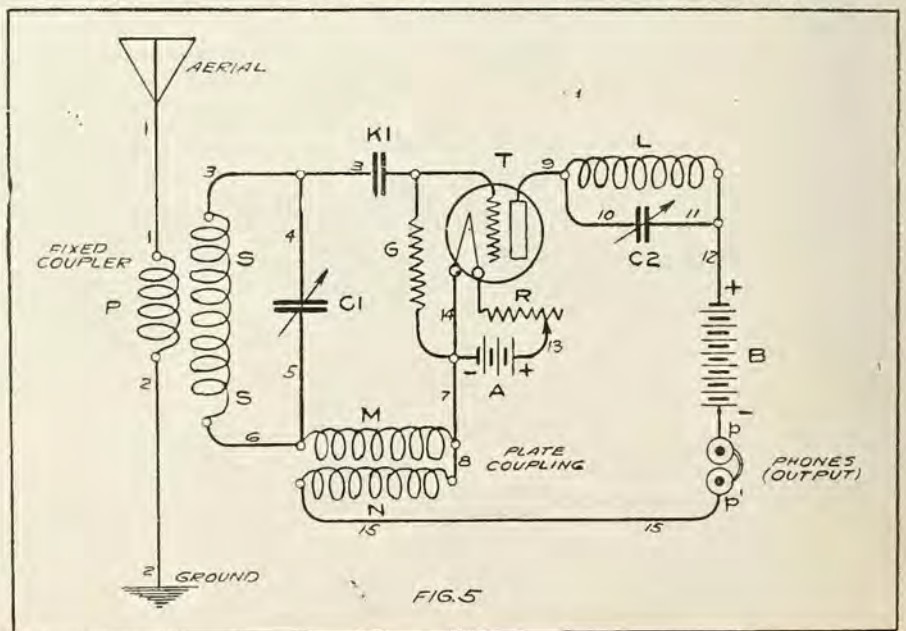

FIG. 5
Fig. 5 contains the amplifier tube (T) with the grid condenser (K1) and